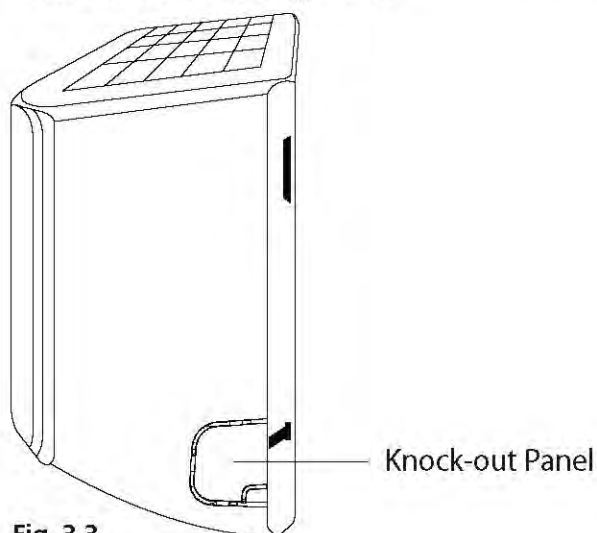

Fig. 3.3
2. If the wall hole is behind the unit, keep the knock-out panel in place. If the wall hole is to the side of the indoor unit, remove the plastic knock-out panel from that side of the unit. (See **Fig. 3.3**). This will create a slot through which your piping can exit the unit. Use needle nose pliers if the plastic panel is too **difficult to** remove by hand.